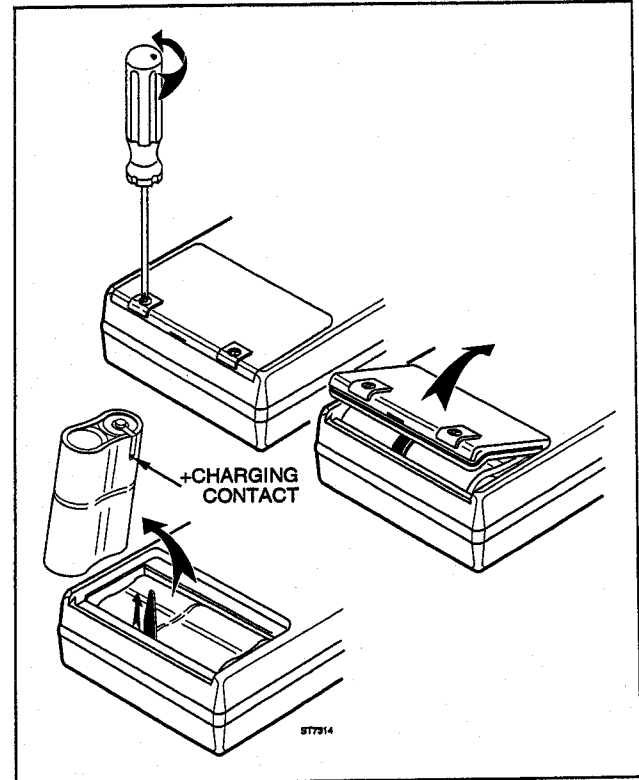

Figure 7.1 Battery Replacement
6. Install a new NiCad battery pack (PM9086/001) or new alkaline (C Cell) batteries (type KR27/50 or R14) as shown in Figure 7.1.
Ensure that the NiCad battery pack charging contact is aligned in the battery compartment as shown in Figure 7.1. Use only the PM9086/001 NiCad battery pack.